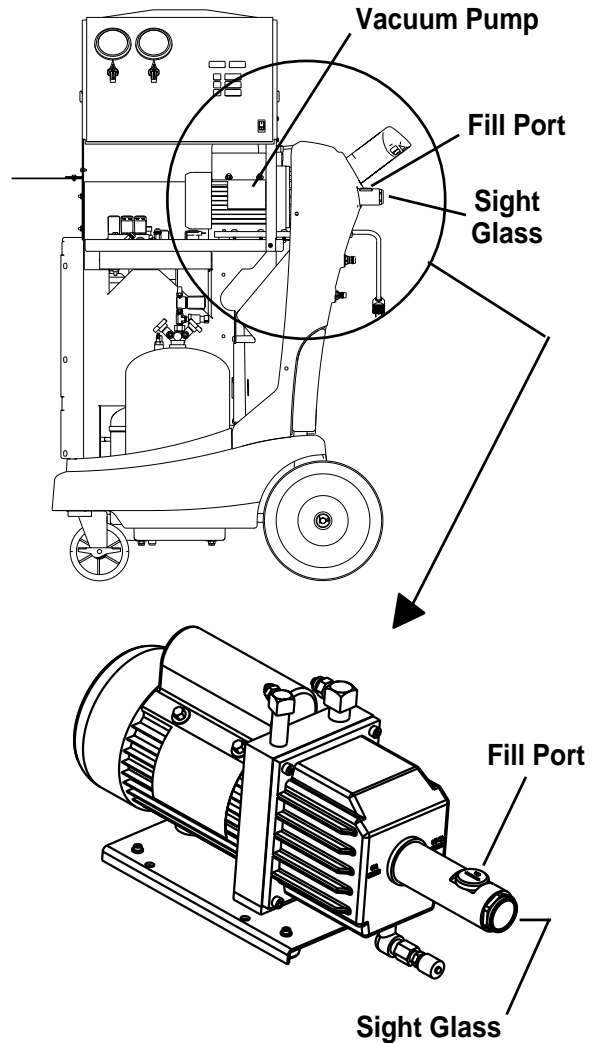

Figure 2
1. Remove the brass plug from the vacuum pump oil fill port. See Figure 2.
2. Attach the flexible tube/cap to the oil bottle; pour **only** five (5) ounces of vacuum pump oil into the fill port. *Note: You will top off the oil in the next step as the vacuum pump is running.*